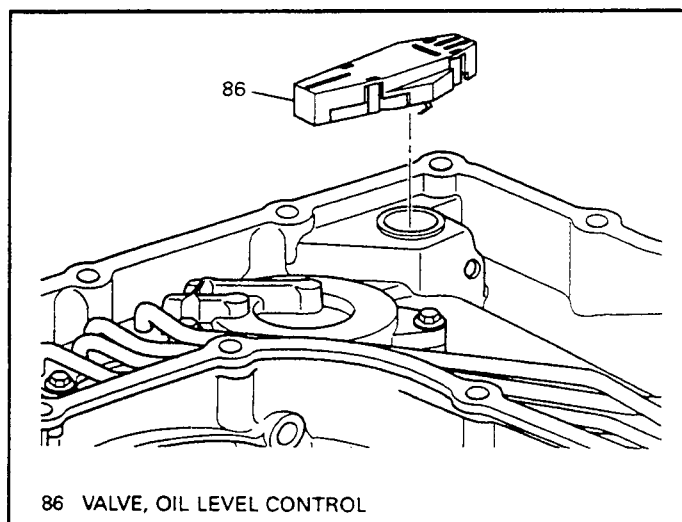

Figure 198
1. General Motors recommends that the oil level control valve (86) be replaced if it is removed. The oil level control valve can be reused if the retaining tabs on the bottom are not bent and still have the ability to retain it in the case bore (See Figure 198).
2. Install the oil level control valve into transaxle case bore as shown in Figure 198, by pushing down on oil level control valve where it says **"PRESS HERE"**.